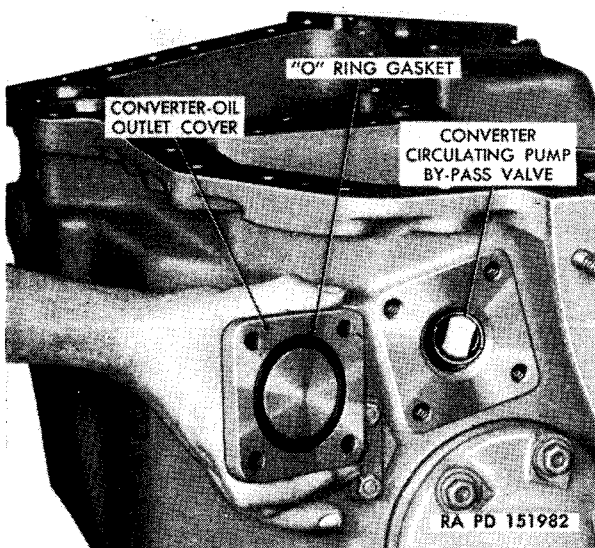
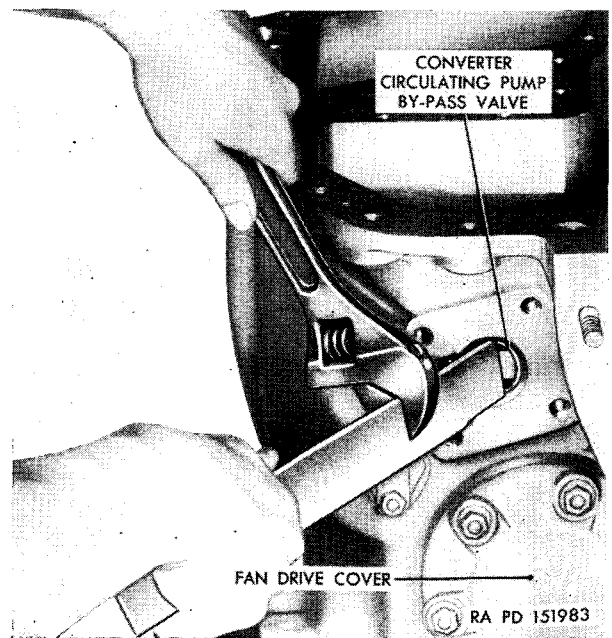

Figure 243. Removing or installing converter-oil-outlet cover.
Figure 244. Removing or installing circulating pump-by-pass valve assembly.
- (3) Using a $\frac{7}{16}$ -inch wrench, remove four bolts and washers from the converter-oil-outlet cover and remove it from the housing (fig. 243). Install a piece of strap iron, $\frac{1}{8}$ -inch thick by $1\frac{1}{16}$ -inches wide by approximately 10-inches long, in the slot on the converter-circulating pump-by-pass valve body. Using an adjustable wrench to turn the strap iron, screw the valve assembly out of the housing (fig. 244).